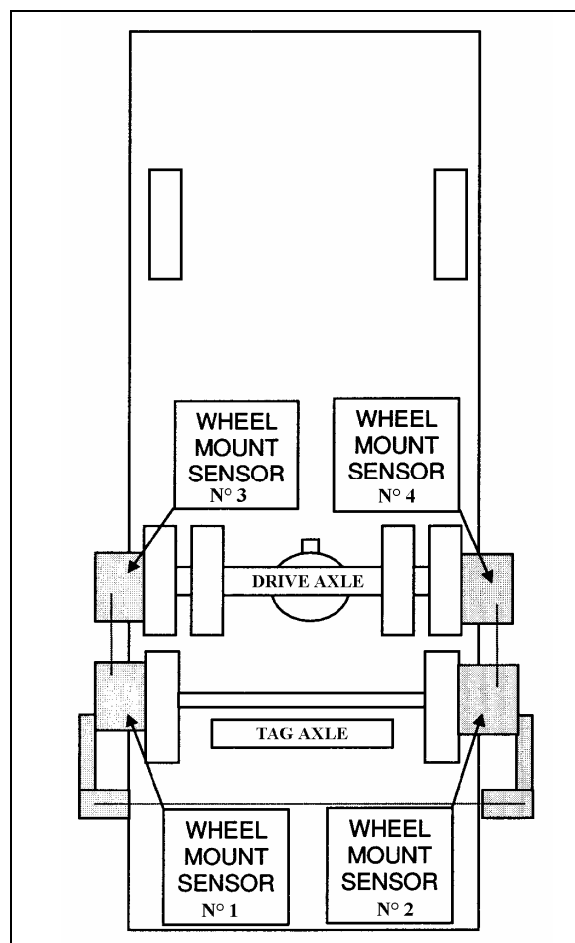

FIGURE 8: TAG AXLE ALIGNMENT
- Remove and reinstall all wheel mount sensors on the drive and tag axes (fig. 8);